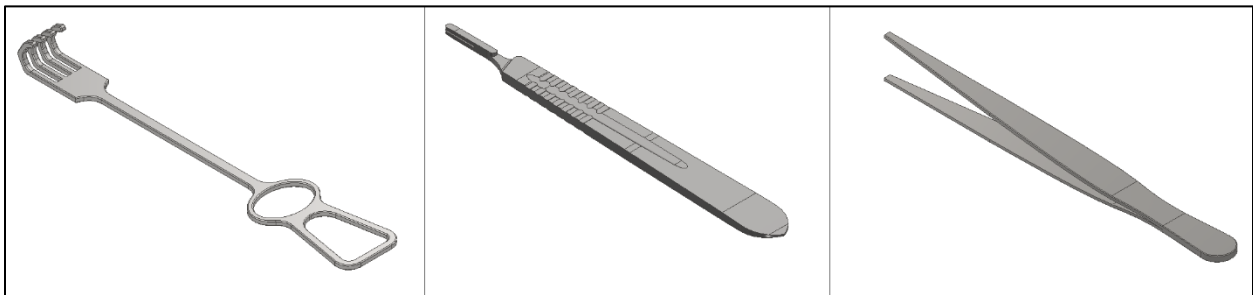

Figure 1. Each team will be required to design a container that **securely** holds in place one of the above surgical tools.
1. A solid model (*.IPT file) of a surgical tool (Figure 1)